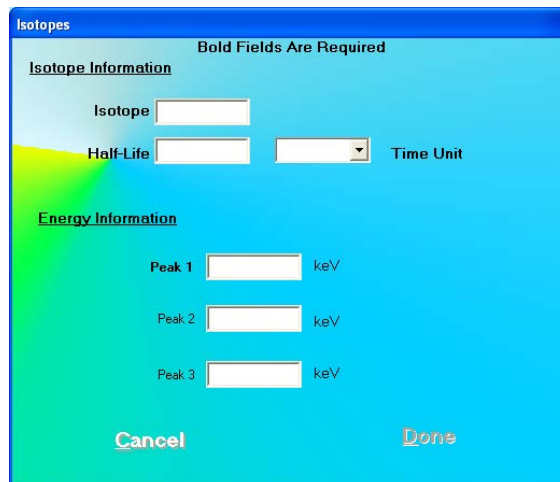

Figure 6-2
1. Click the  icon on Figure 6-1 Isotopes Main Screen. Figure 6-2 will appear.
- Click the  icon. Figure 6-2 will appear.